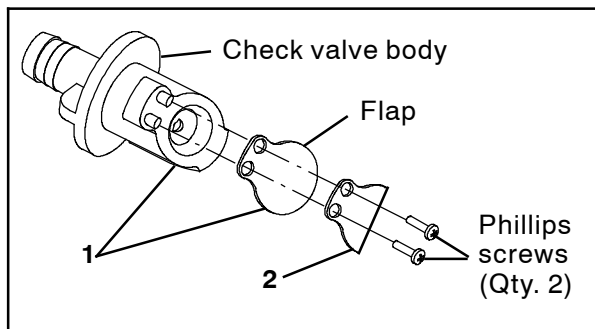

FIG. 2
- Use the previously removed Phillips screws to install the check valve flap resistor (2) onto the flap and the ES check valve body (1). (Fig. 2)